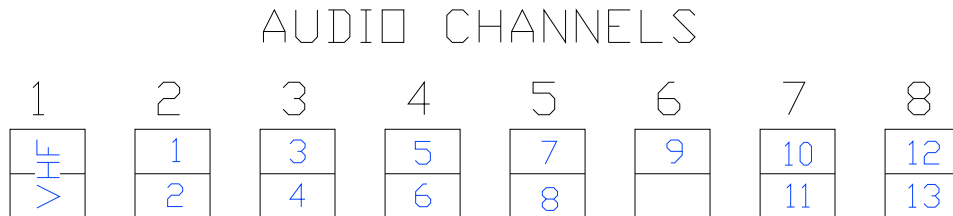

Figure 8-34 - Sample Audio Module Connections for Ship Example 2
*NOTE: in Figure 8-34 - Sample Audio Module Connections for Ship Example 2 below that Mics 1 and 2 are connected to Channel 2, Mics 3 and 4 are connected to Channel 3, and Mics 5 and 6 are connected to Channel 4, Mics 7 and 8 are connected to Channel 5, and Mic 9 is connected to the top input of Channel 6. The 4 interior microphones located in the engine room (10, 11, 12, and 13) are connected to Channels 7 and 8. Since the 4 engine room mics are **located in a separate section of the ship** from the 9 Bridge mics, they are not placed on the same channel as the Bridge mics.*